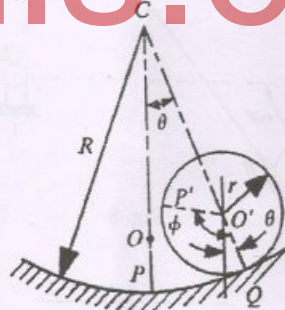

Fig. 6
16. (a) (i) A uniform solid cylinder of radius  $r$  and mass  $m$  rolls without slipping on a cylindrical cavity of radius  $R$ . Determine the natural frequency of oscillation of the cylinder about its lowest position shown in Fig. 6.